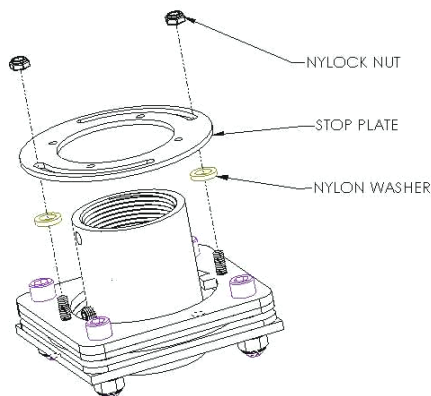

Figure 2. Stop Plate Attachment
1. Loosely attach stop plate with two Nylon washers and two Nylock nuts (see Figure 2).